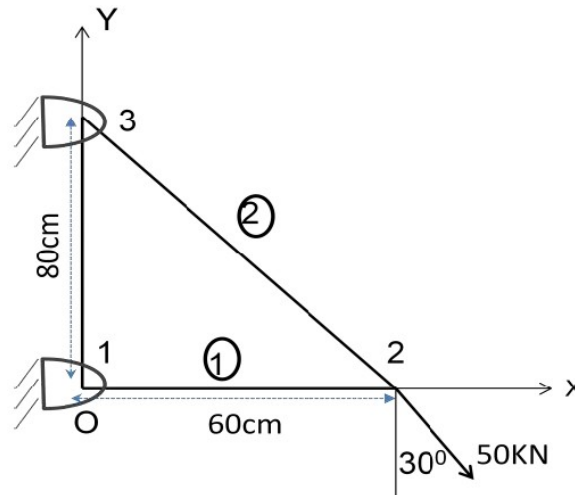

Fig.1
- 3 Calculate nodal displacement and elemental stresses for the truss shown in fig.1. [14M]